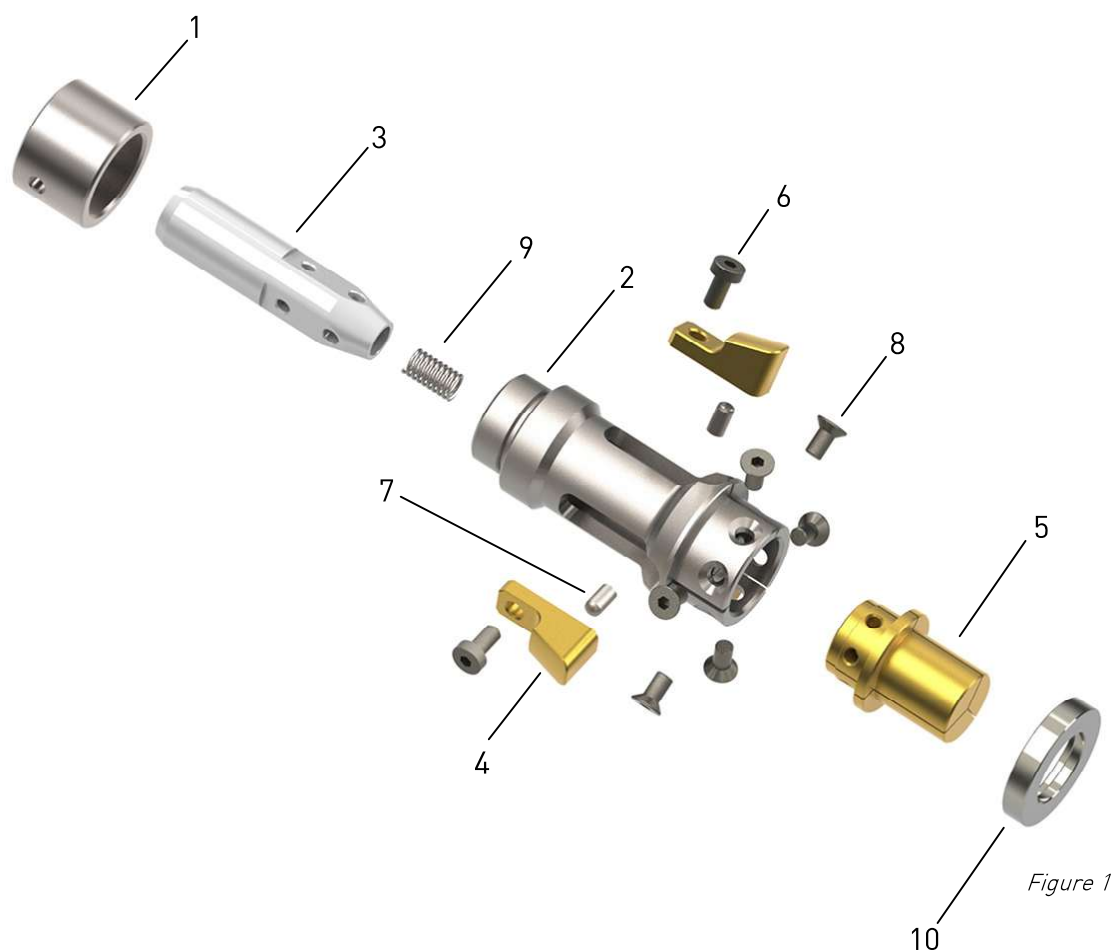

Figure 1
WIBEMO is not responsible for any out-of-round problems with finished hardened jaws if the retaining screws (8) (*figure 1*) have been loosened.
- 2) Dismantle the blank jaws from the body by unscrewing the 6 jaws retaining screws (8) (*see figure 1*)